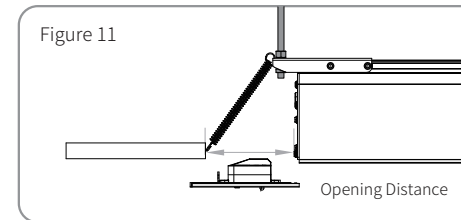

Figure 11
- Install the left decorative cover (with control board) on the power cord side (Figures 11–13). The right decorative cover installation is similar.